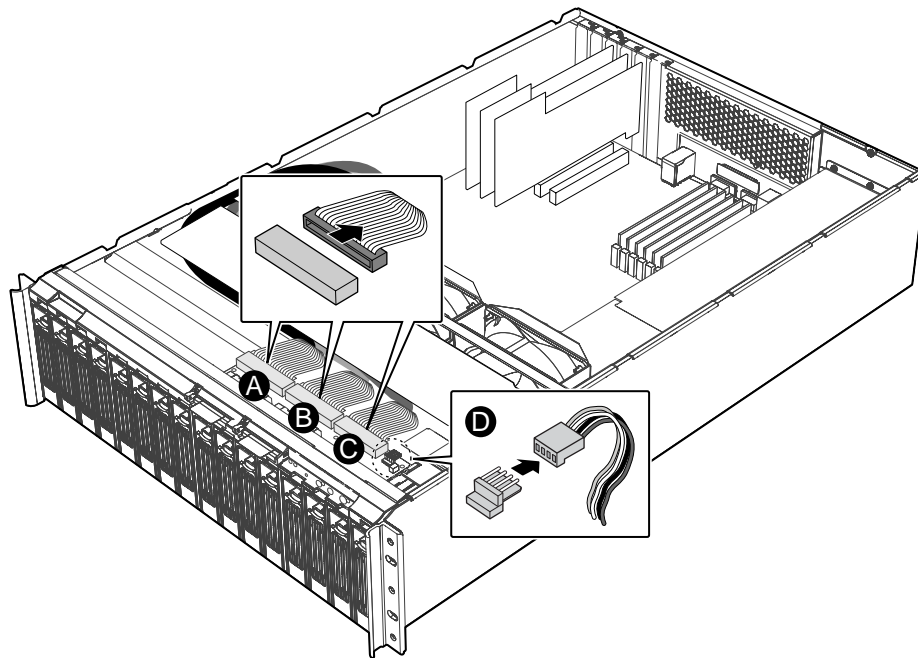

Figure 3. Removing Front Panel Cables
- A. Remove the Primary IDE Cable labeled J5 from its connector receptacle on the front panel board. See Figure 3.
- B. Remove the Secondary IDE Cable labeled J3 from its connector receptacle on the front panel board. See Figure 3.
- C. Remove the Front Panel Cable labeled J1 from its connector receptacle on the front panel board. See Figure 3.
- D. Remove the front panel power connector from its connector receptacle on the front panel board. See Figure 3.